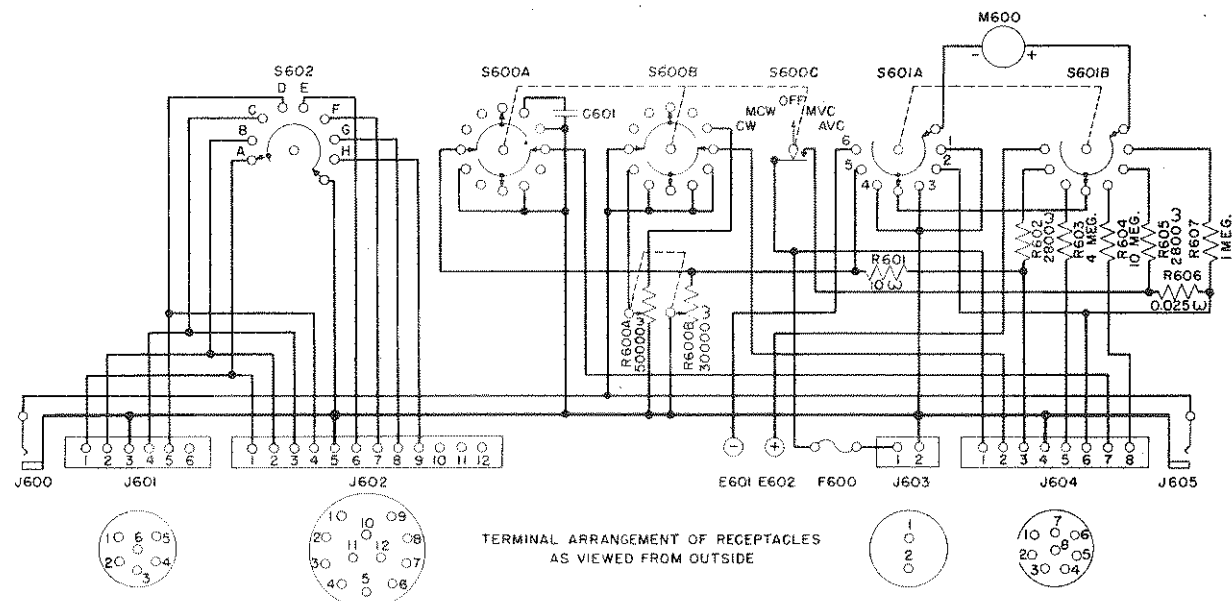

Figure 47—Test Unit I-104-A—Schematic Circuit
- Schematic Circuits..... Figs. 47 and 48
shown in Figure 46, schematic circuit in Figure 47 and wiring diagram in Figure 79. The connections used in testing receivers are shown in Figure 66.